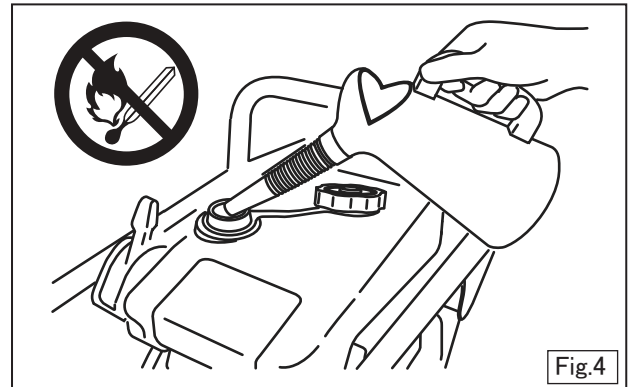

Fig.4
6. Visually check fuel level. If fuel level is low, refuel with unleaded fuel. (Fig.4)